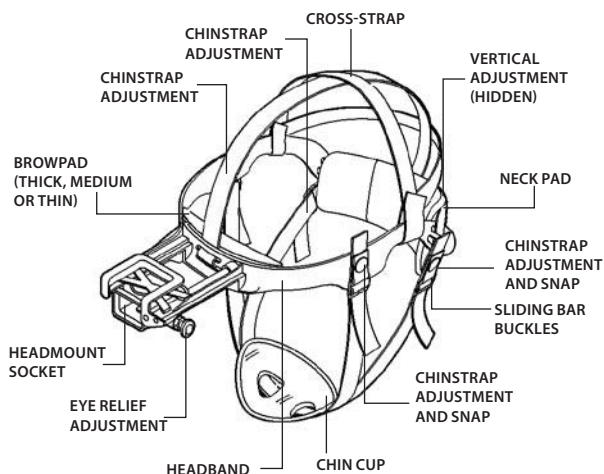

Figure 3-9. MUNVM Headmount Adjustments
- (1) Before putting the headmount on, loosen the four ends of the chinstrap (approximately two inches from the sliding bar buckles; see Figure 3-9).
- (2) Snap the front and rear clasps (Figure 3-9) into place.
- (3) Using both hands, grab the neck pad (Figure 3-9) and pull the harness over your head, sliding the neck pad down over the back of your neck.
- (4) Holding the chin cup in position, adjust both sides of the chinstrap until you feel it lightly press against your chin. **DO NOT TIGHTEN.**
- (5) Maintain the position of the chin cup and remove any slack from the chinstrap. **DO NOT TIGHTEN.**
It may be necessary to remove the browpad (Figure 3-9) when wearing the headmount over a protective mask.